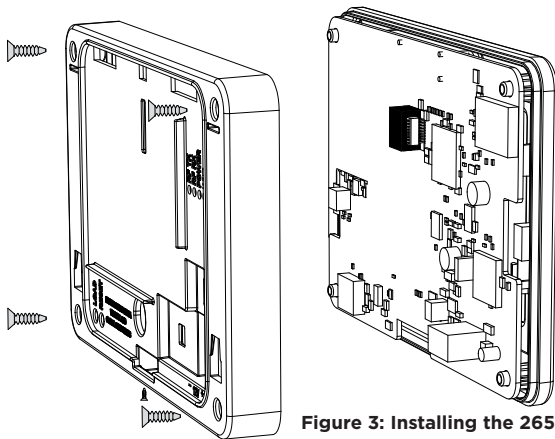

Figure 3: Installing the 265LTE-V-GW
3. Separate the base from the panel and keypad. See Figure 3.